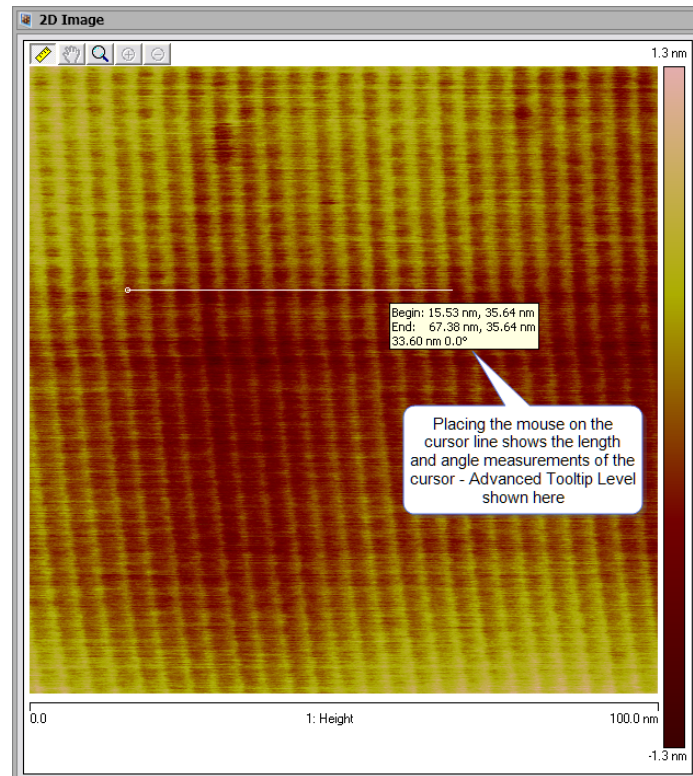

Figure 5.1d: Cursor Length and Angle Measurements
8. After a cursor has been drawn it is possible to get more detailed information on the length and angle measurements. Right click anywhere in the **2D Image** rendering (except on the drawn cursor). Choose Tooltip Level > Basic, Medium, Advanced, or None. See Figure 5.1d.